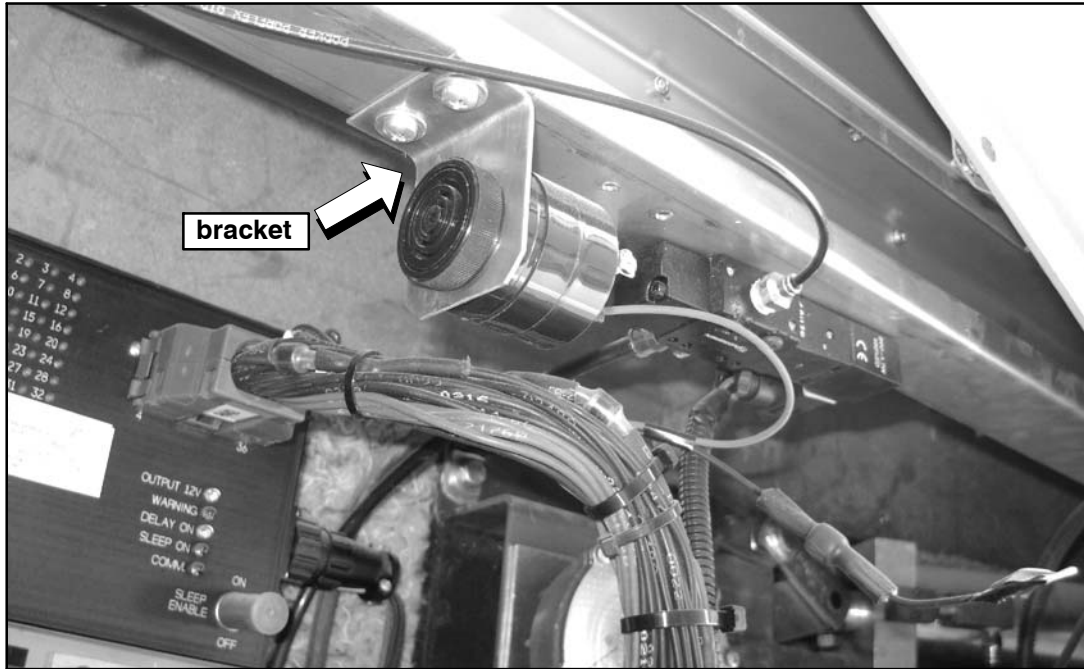

Figure 30.
46. Install the beeper, p/n 07-08-6252, in the bracket, p/n 07-08-2796 (refer to Figure 30).